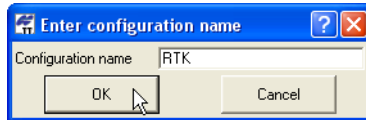

Figure 2-10. Enter Configuration Name
- The Save Configuration button opens the **Enter configuration name** dialog box in which to name a new configuration (Figure 2-10). See also “Creating a New Job” on page 2-2.